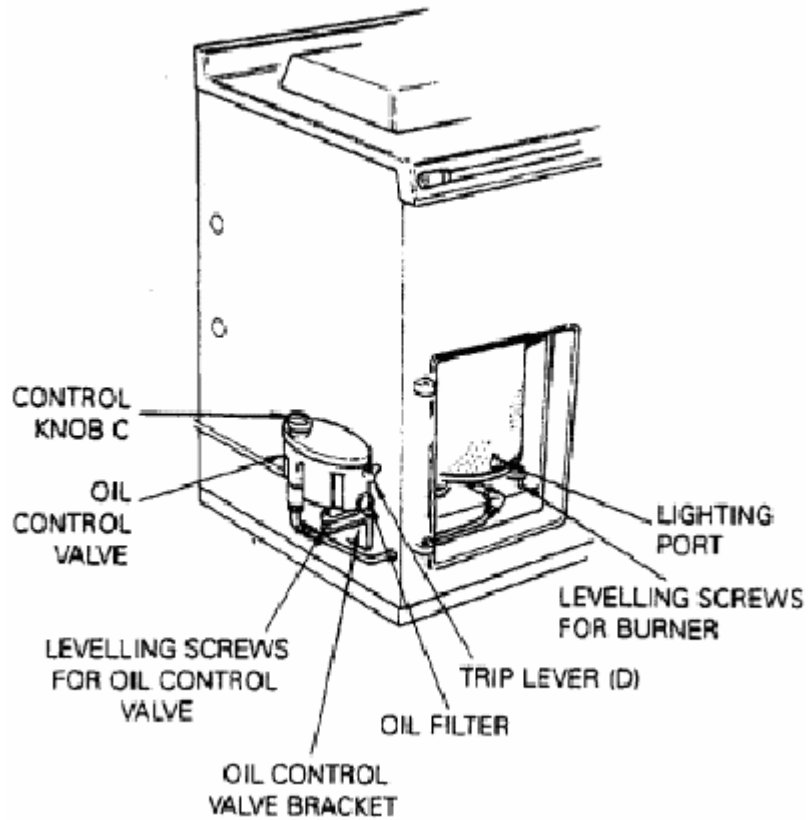

Fig. 11
2. Depress the trip lever **D** on the front of the oil control valve **A**, and turn cooker oil control knob **C** to No.6 setting. See Figs. 11 & 12.
## LIGHTING THE OIL BURNER - See Fig. 11
### Oil Burner - See Fig. 11